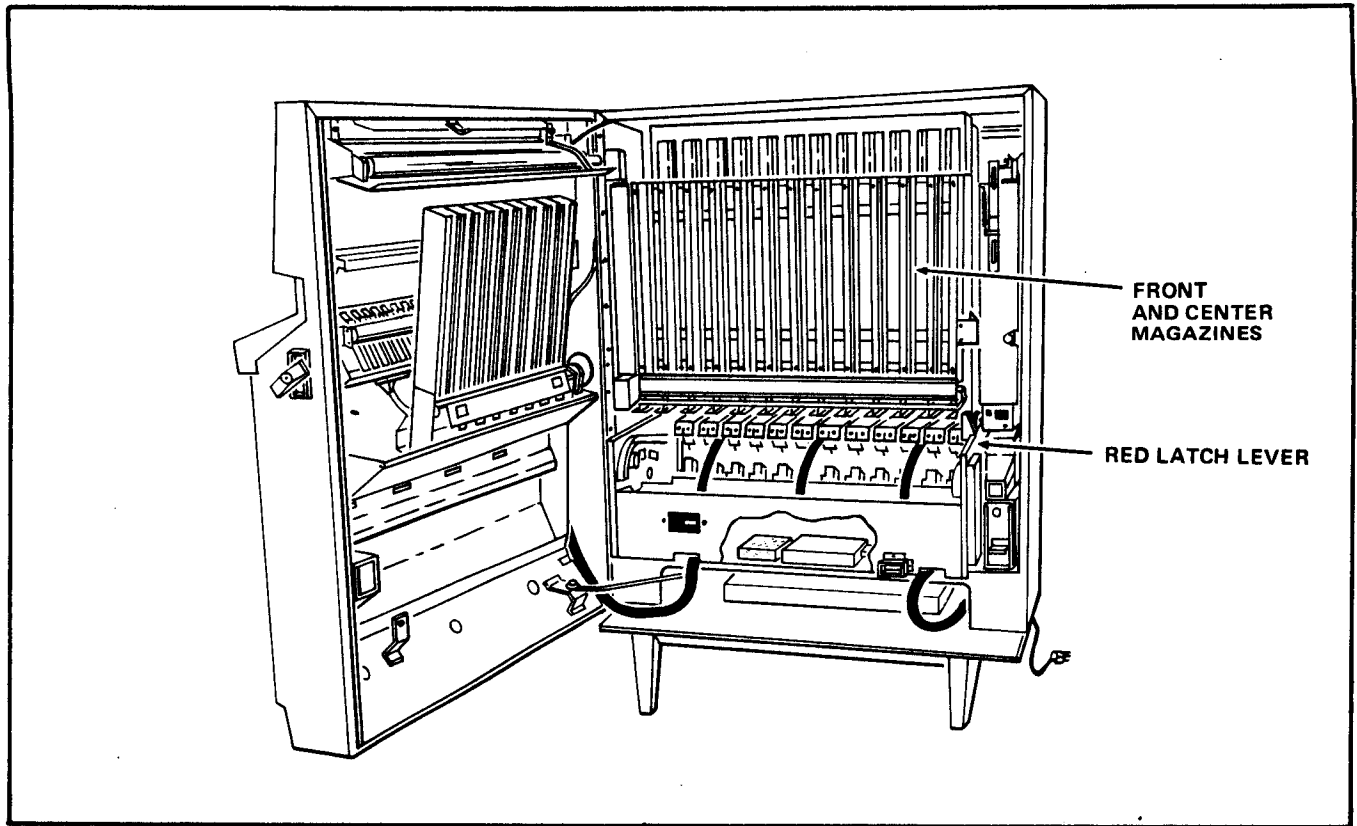

FIGURE 1
1. Unlock and open the Cabinet Door. See Figure 1.
2. Depress the red Latch Lever and swing out the Front and Center Magazines. See Figure 1.